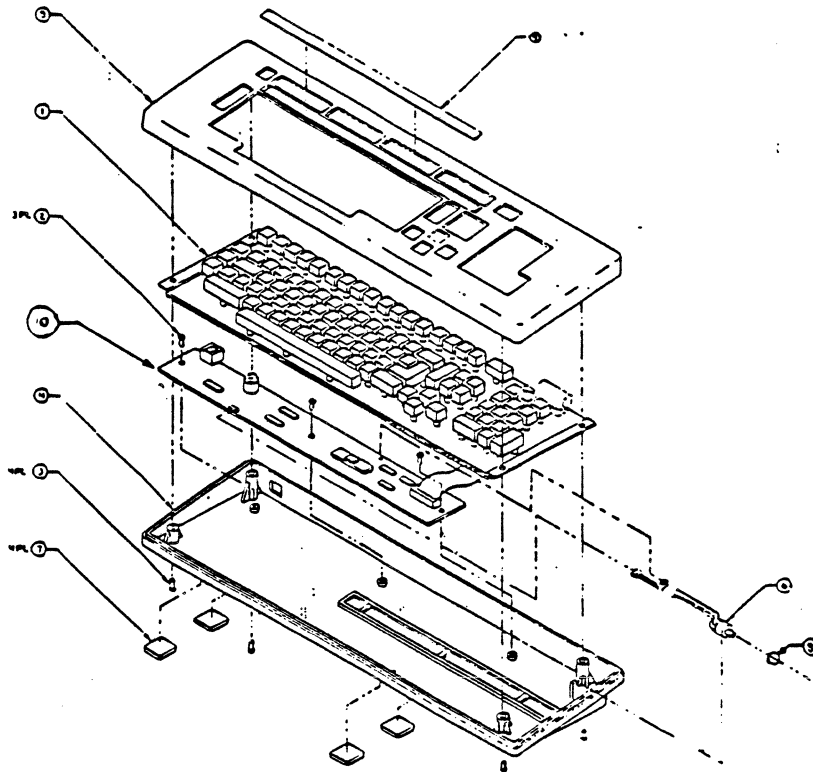

Figure 8-4
4. Lift the keyswitch assembly (Figure 8-4, item 1), and disconnect the ribbon cable from the keyboard electronics assembly (Figure 8-4, item 10). Set the keyswitch assembly aside.